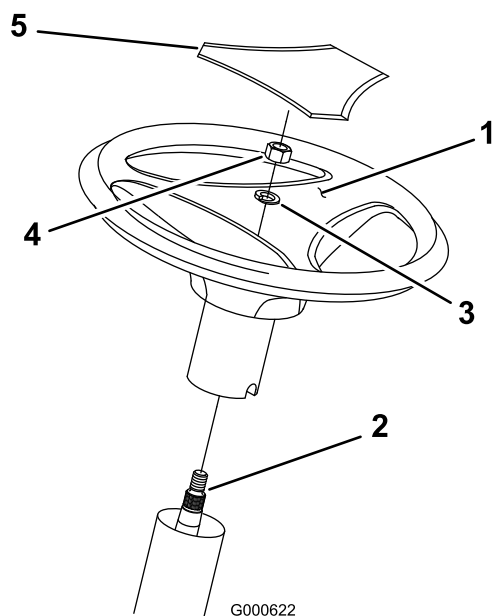

Figure 1
3. Line up the center spoke toward the seat and position the steering wheel onto the shaft spline (Figure 1).
4. Secure the steering wheel with a lock washer and nut (Figure 1).
6. Snap the logo cover into place (Figure 1).